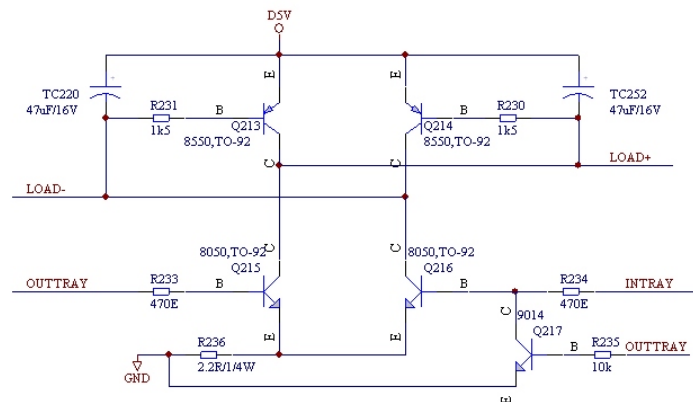

Figure 3.2.7.1 Disc in/out circuit diagram
1. Disc in/out circuit is shown as the following figure 3.2.7.1: